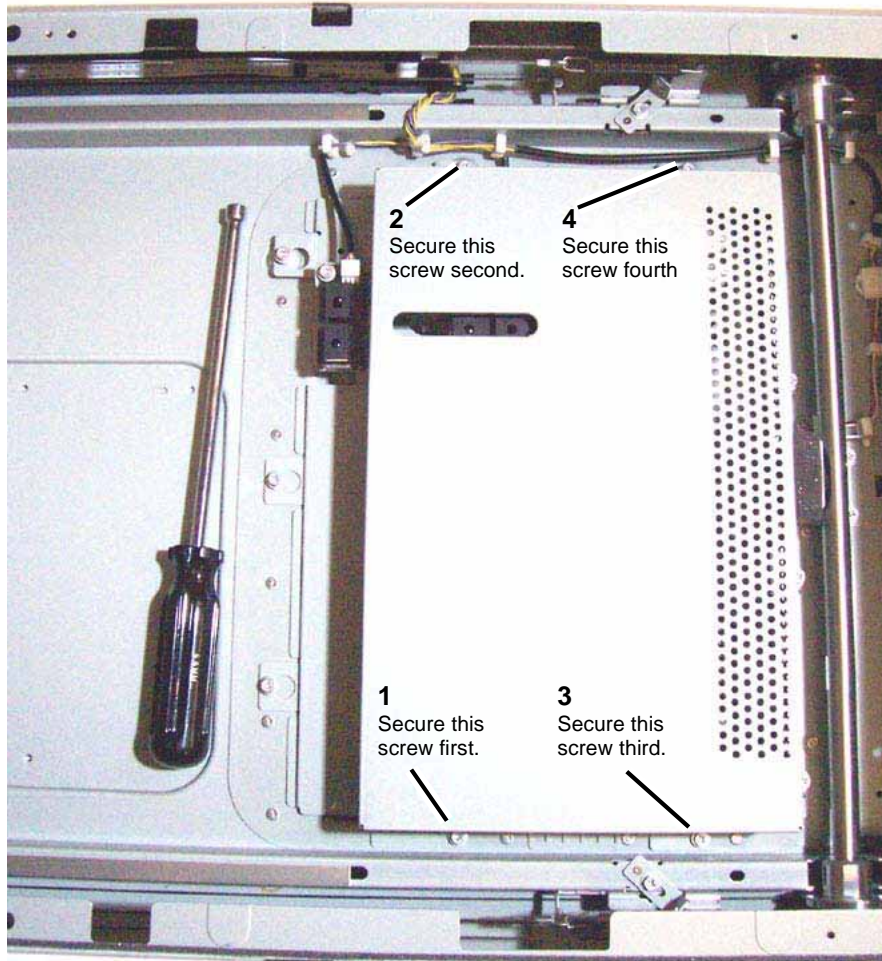

Figure 1 Lens Cover Screw Securing Sequence
2. Slide the Lens Cover to the right to engage all (10) securing screws.
3. Install the securing screws in the order shown in the figure. Figure 1
- a. Install the (4) screws indicated in the figure first and secure them in the order shown.
- b. Install the remaining (6) screws and secure them (preferably in a crisscross pattern).